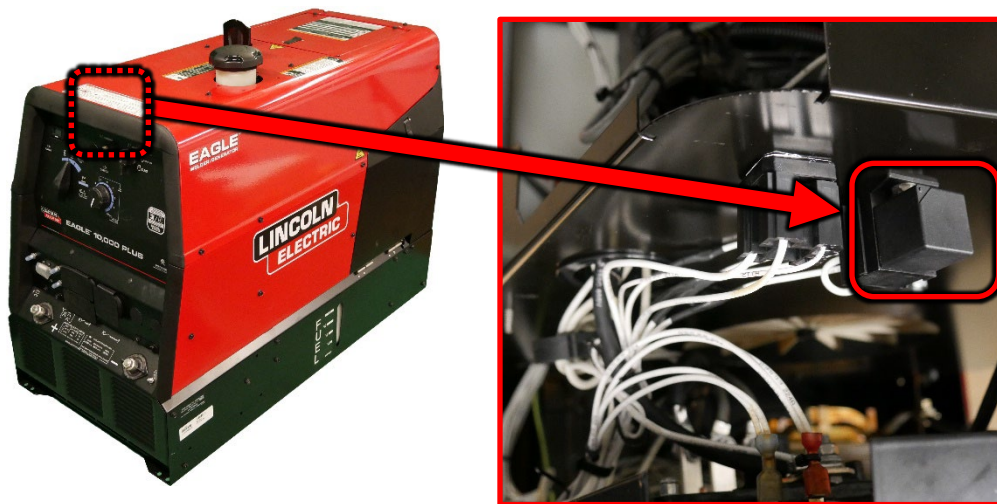

Figure F.1
1. For location of the CR2 Relay refer to Figure F.1.